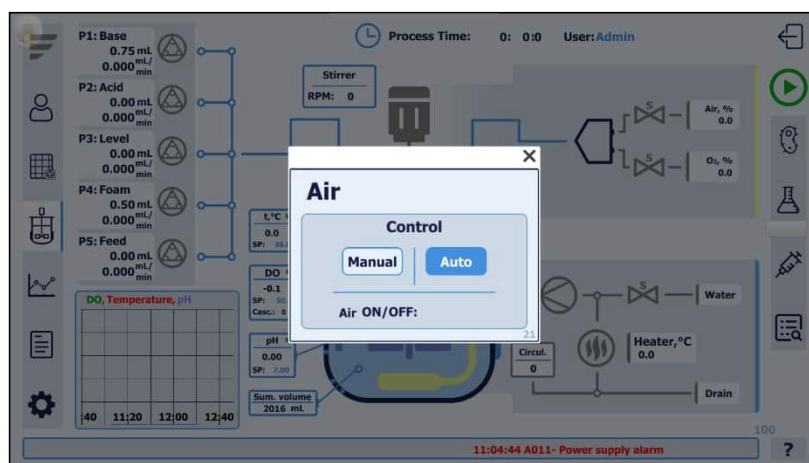

Figure 8.2. Gas control window
- 1) Access the REACTOR window and locate the AIR and O₂ sections in the top-right corner of the window. By pressing the respective gas valve symbol, the control window for the respective gas will appear, see Figure 8.2;